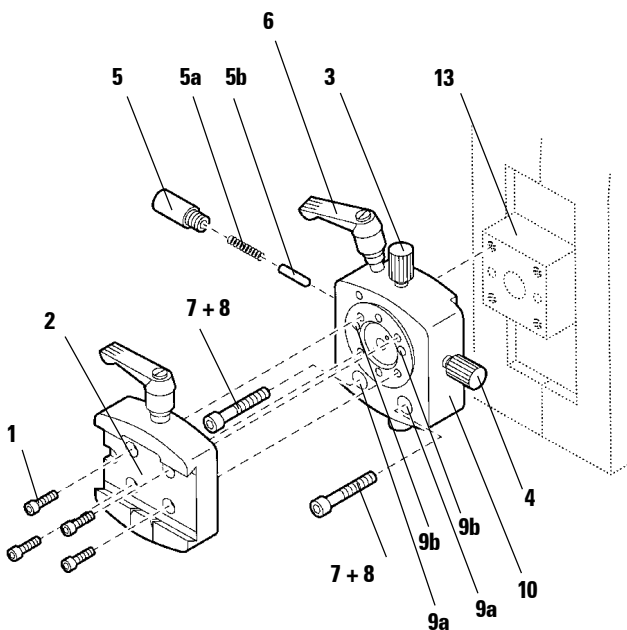

Fig. 21.2
7.3.2 Orienting specimen clamping system (Fig. 21.2)
- To remove, turn the eccentric bolt (6) counter-clockwise.
- Unscrew the thrust piece (5) with a screw driver and pull it out together with the spring (5a) and pin (5b).
- Unscrew the orienting screws (3) and (4) and remove.
- Place the orienting specimen clamping system (10) on the specimen arm (13) as shown.
- Put the 2 screws (7) into the holes (9a). The 2 screws (8) are accessible through the holes (9b).
- Tighten the screws (7) and (8) by using an Allen key size 3.
- Insert the spring (5a) and the pin (5b) with the flat end into the thrust piece (5) and screw down the thrust piece (5) with a screw driver.
- Screw down the orienting screws (3) and (4).
- Place the dovetail adapter (2) on the specimen clamping system and fix it by tightening the 4 screws (1) with an Allen key size 3.